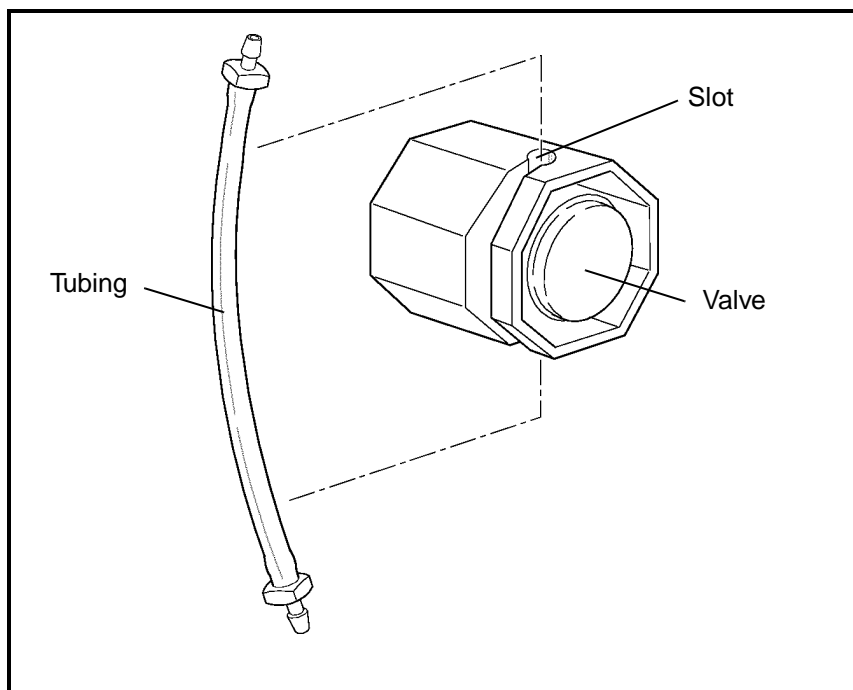

Figure 2.4: Tubing in a Normally Closed Valve
2. The procedure described below applies to all the Normally Closed Valves on the Flow Panel. Refer to Figure 2.4.